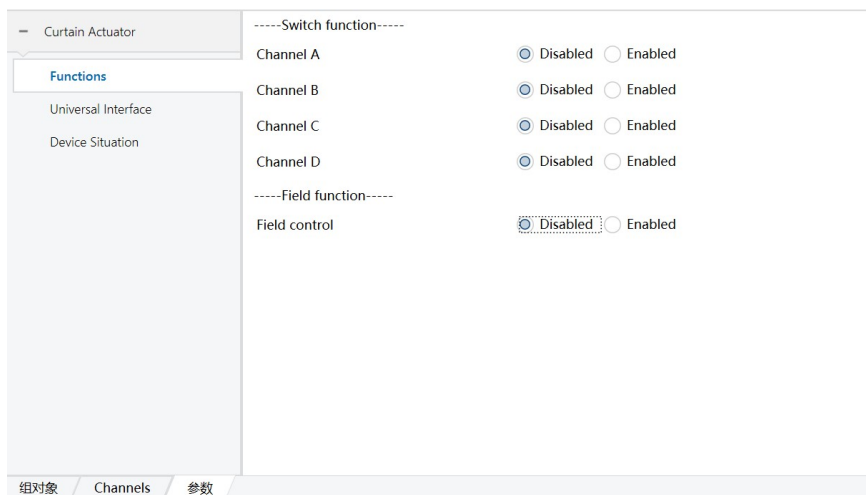

Figure 6.1.1
1) Open the parameter setting interface of the curtain execution module in ETS5, as shown in Figure 6.1.1, the parameter "Channel X" indicates the output of the corresponding channel. The parameter "Field control" indicates the field control function. When the "off" command is sent, the relay status of each channel is saved and closed. When the "on" command is sent, the last saved relay status is recalled. (Note: The "off" command cannot be sent twice consecutively, because the current state is saved when the "off" command is sent for the first time, but when the "off" command is sent for the second time, the "off" command sent for the first time will be saved. off" command, covering the first saved scene state).